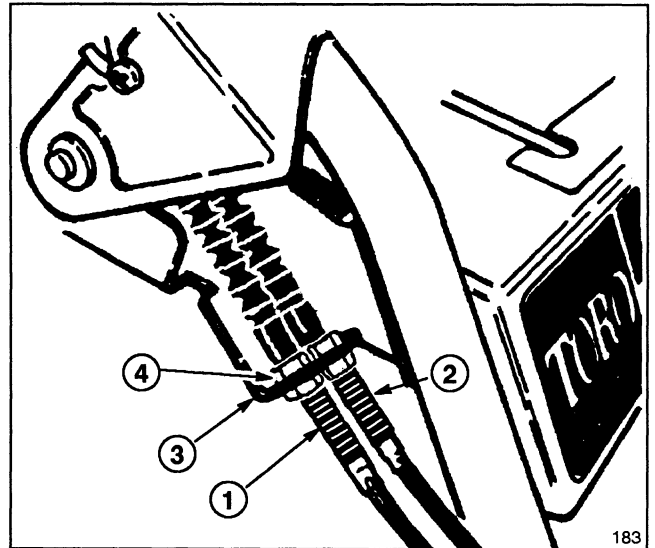

Figure 30
4. Loosen upper jam nut securing auger/impeller cable to mounting bracket (Fig. 30).
ADJUSTING TRACTION DRIVE BELT (Fig. 30)
8. On control cable which corresponds to belt being replaced, loosen jam nuts securing cable to bracket (Fig. 30). Cable must be free to slide in bracket when changing belt(s).